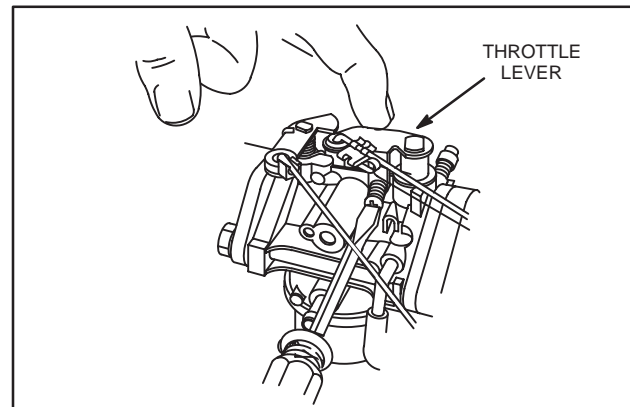

Fig. 24 – Adjusting Idle Speed
1. With control lever on equipment in SLOW position, hold throttle lever against idle speed screw and adjust idle speed to 1200 RPM, Fig. 24.